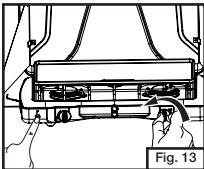
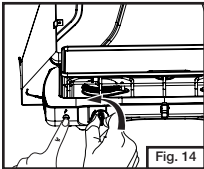

Fig. 13
Fig. 14
- Open burner valve and repeatedly push igniter button until burner lights. (Fig. 13 and Fig. 14)